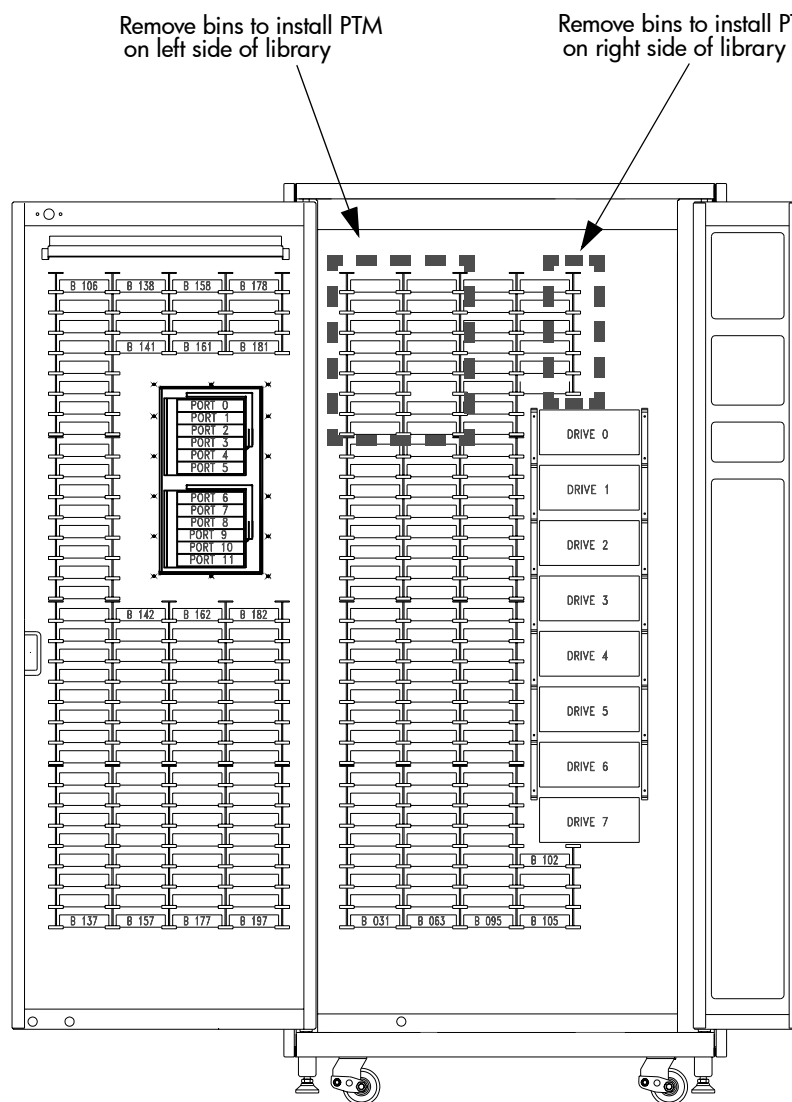

Figure 10: ESL9198 bin removal locations
<p>ESL9198 library with PTM installed on left side of library:</p> <ul style="list-style-type: none"> ■ Remove the three cartridge bin shelf modules from the interior wall of the library as shown. (Also see Figure 10 on page 33.) ■ When installing the PTM, you may need to temporarily remove two more bins to allow the PTM to be positioned.
<p>ESL9198 library with PTM installed on right side of library:</p> <ul style="list-style-type: none"> ■ Remove the single cartridge tape cartridge bin from the interior wall of the library as shown. (Also see Figure 10 on page 33.) ■ When installing the PTM, you may need to temporarily remove two more bins to allow the PTM to be positioned.
- For PTM assemblies installed on the left side of an ESL9198 library, see Figure 10 on page 33.